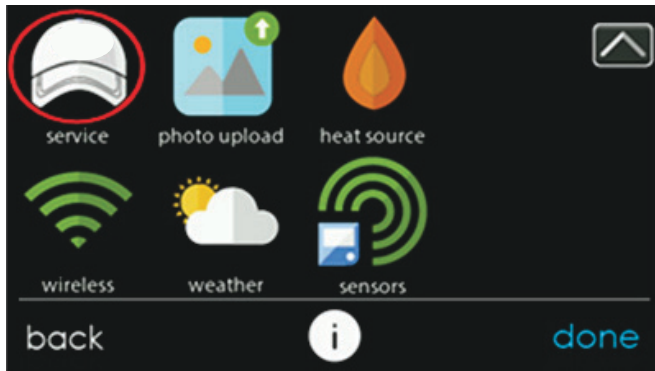
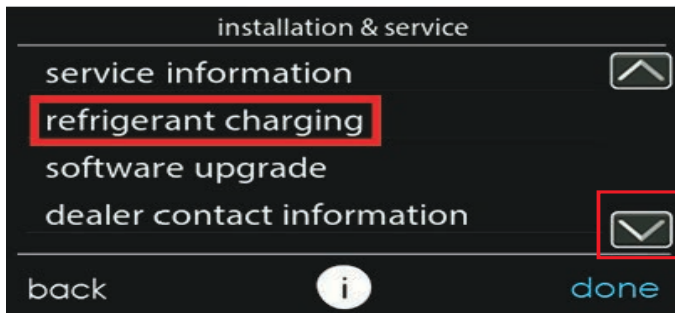
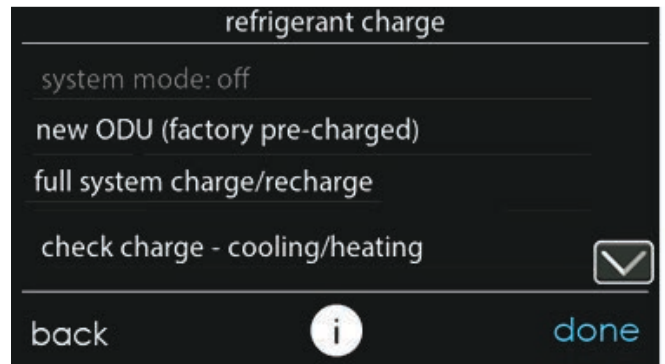

Fig. 12 – Entering Installation and Service Menu
Fig. 13 – Installation and Service Menu
Fig. 24 – Pump Down and Evacuation Selection
5. Navigate to the “Installation and Service menu” by performing a long press on the service icon from the main screen (see Fig. 12). Once in the “Installation and Service” menu, select “Refrigerant Charging” (see Fig. 13).
2. In the “installation and service” menu of the Evolution™ Connex™ System Control (see Fig. 12), go to “refrigerant charging” and then “pump down” (see Fig. 13 and Fig. 24).